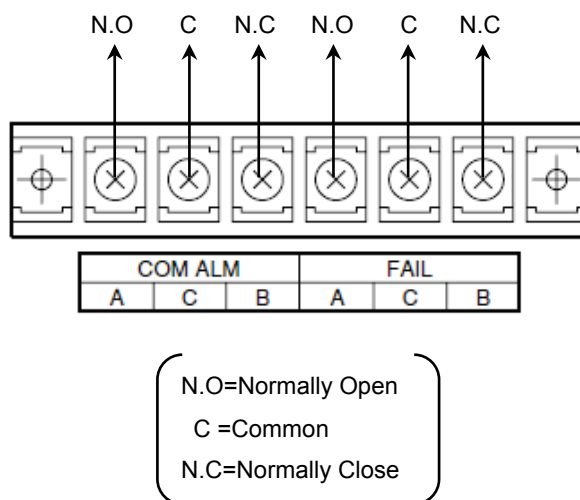

Figure 4.10 Wiring for COM alarm output and FAIL output
- (1) Turn off the power to the recorder.
- (2) Install the COM alarm output and FAIL output wires as shown in Figure 4.10.